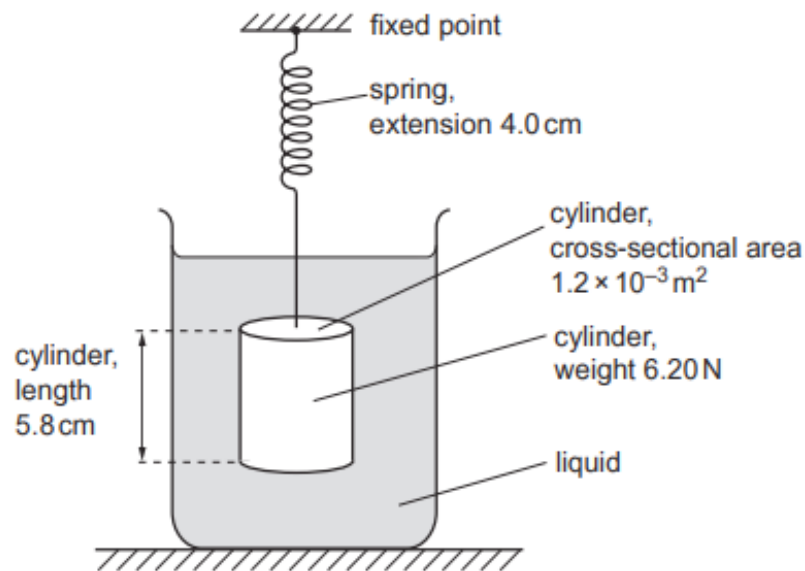

Fig. 3.2
- (c) One end of the spring is attached to a fixed point. A cylinder that is submerged in a liquid is now suspended from the other end of the spring, as shown in Fig. 3.2.